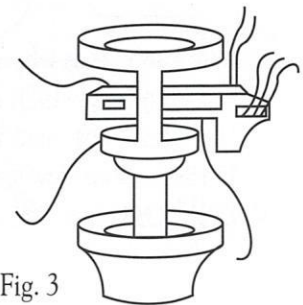

Fig. 3
- 5) Lower your ceiling fan canopy. Insert the receiver into the mounting bracket,. See Fig. 3.